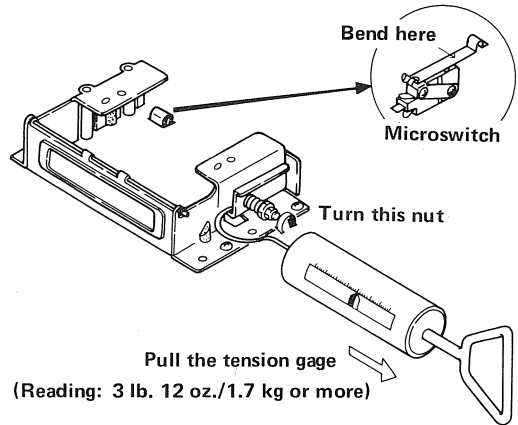

Fig. 23
1. Hook the tension gage to the guide plate unit and pull the gage. See if the gage reads more than 3 lb 12 oz (1.7 kg) (Fig. 23).